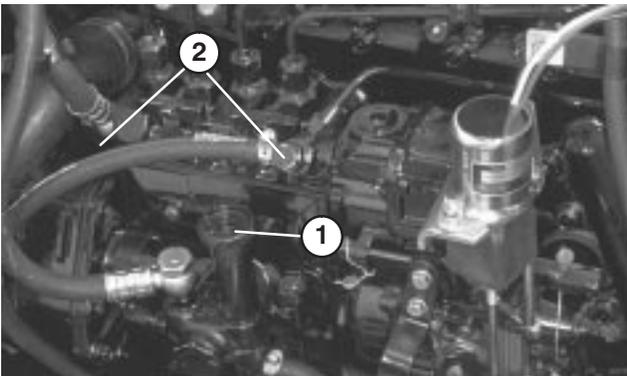

Figure 25
4. Rotate priming pump (Fig. 25) counter-clockwise until spring in pump assembly releases. Operate pump up and down until a solid stream of fuel flows out around filter plug and tighten plug.
5. Loosen air vent plug on injection pump about 1–1/2 turns (Fig. 25). Operate priming pump until solid stream of fuel flows from the vent hole (Fig. 25), then tighten air vent plug.